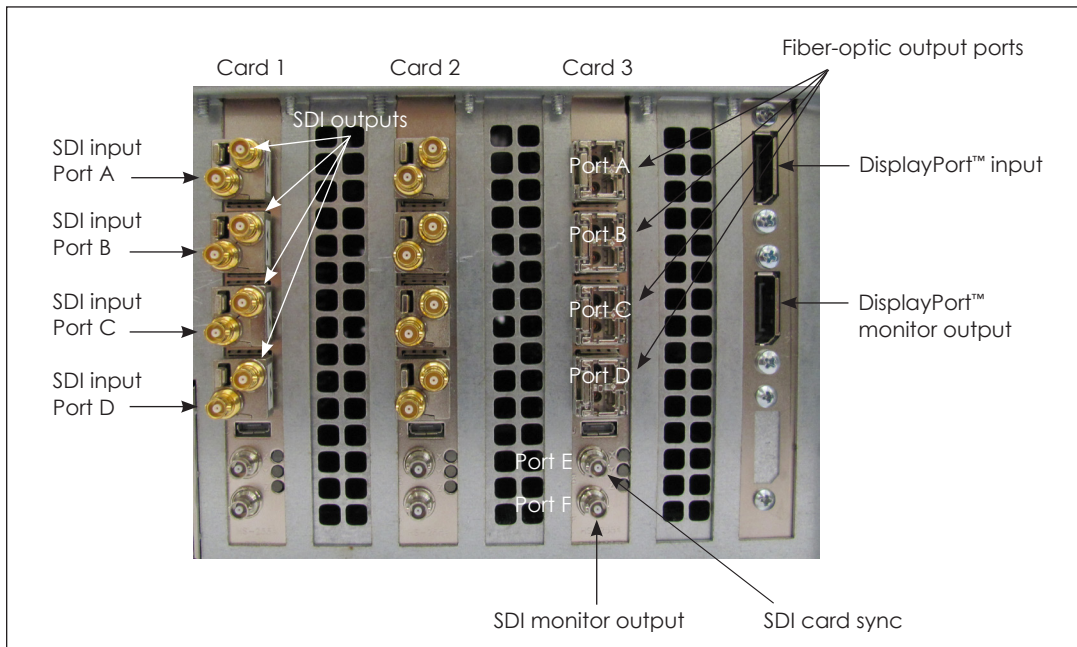

Figure 4: SDI, Fiber-Optic, & DisplayPort™ Ports
1. Locate fiber-optic ports on the VP-6000. Refer to **Figure 4**.
The VP-6000 has four HD-BNC SDI input ports (A-D) available on Card 1 and one DisplayPort™ input port available on the upper-right side of the device. Refer to **Figure 4**. Connect the video source per the contract-specific drawings.